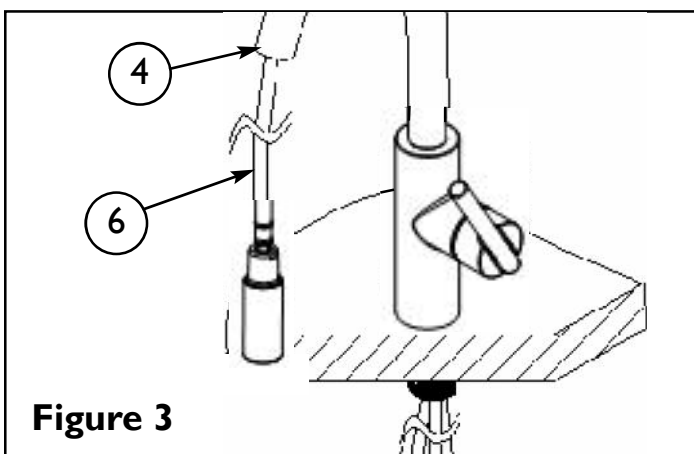

Figure 3
4. **DO NOT** remove the HOSE (6) from SPOUT (4). **See Figure 3.**